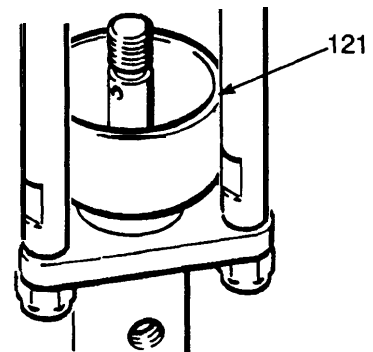

Fig 3
Fill the displacement pump wet-cup (121) 1/3 full with Graco Throat Seal Liquid or a compatible solvent, to prevent fluid from drying on the displacement rod or damaging the packings. See Fig 3.